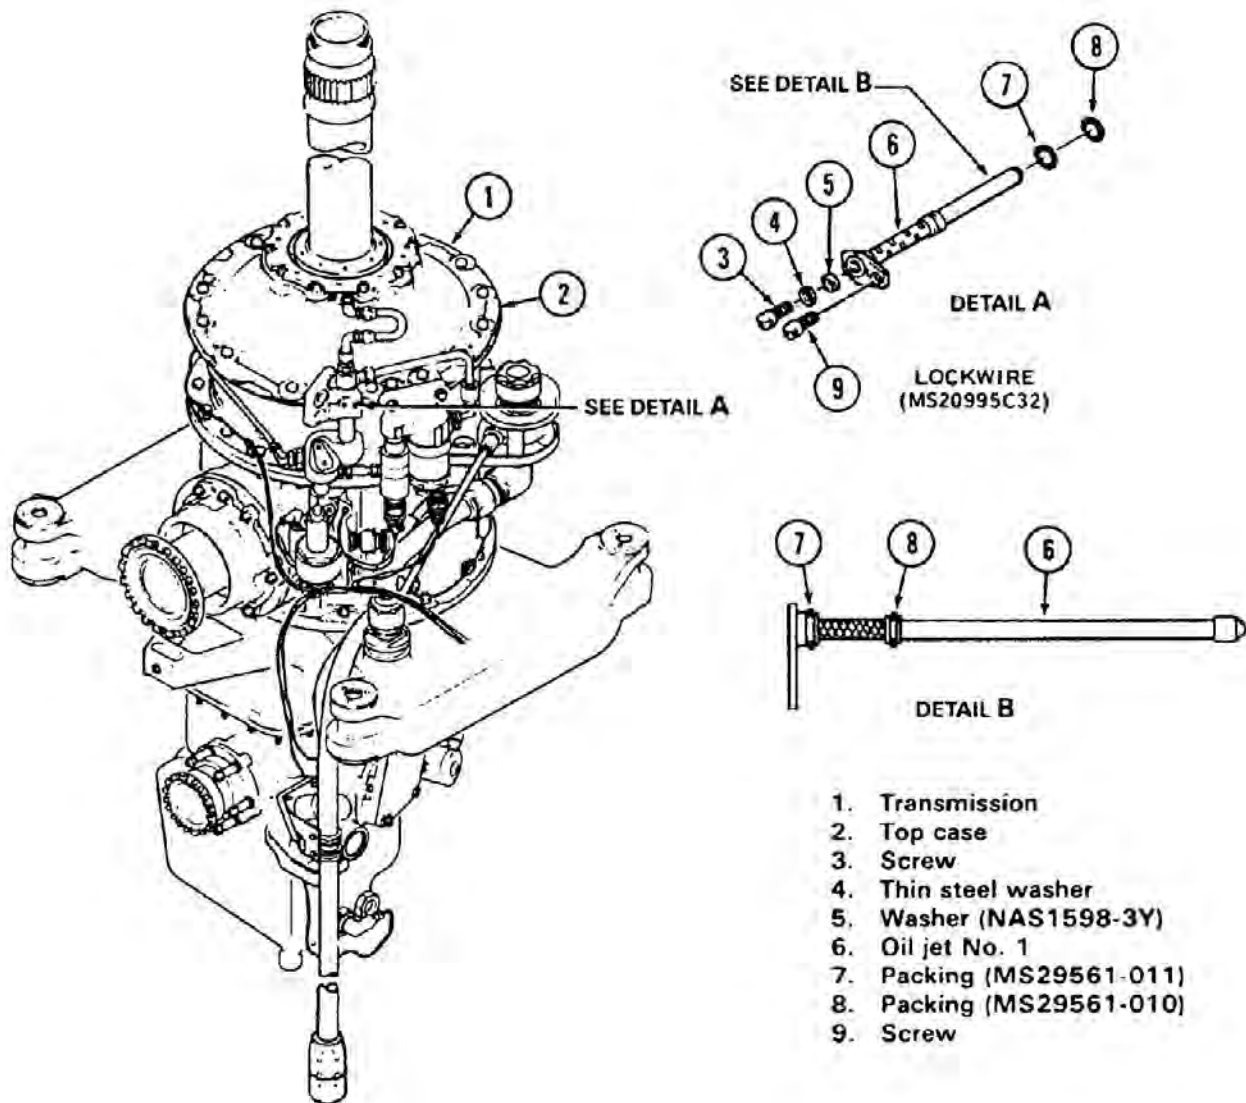

Figure 63-27. Transmission Oil Jet No. 1
63.5.11.1.1 Remove screw (9, Figure 63-27) and pull out oil jet (6).
63.5.11.5.1 Install screw (3, Figure 63-27) with washers (4 and 5) on jet (6).